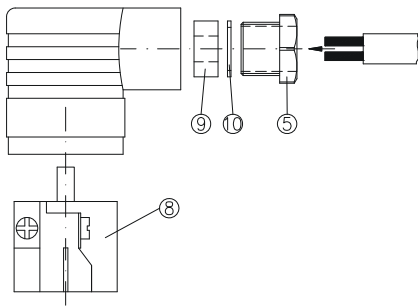

Fig. 8
- ⚡ Insert the supply cable through the screwed cable gland ⑤, the pressure ring ⑩ and the rubber insert ⑨ into the cable socket ② (→ Fig. 8).